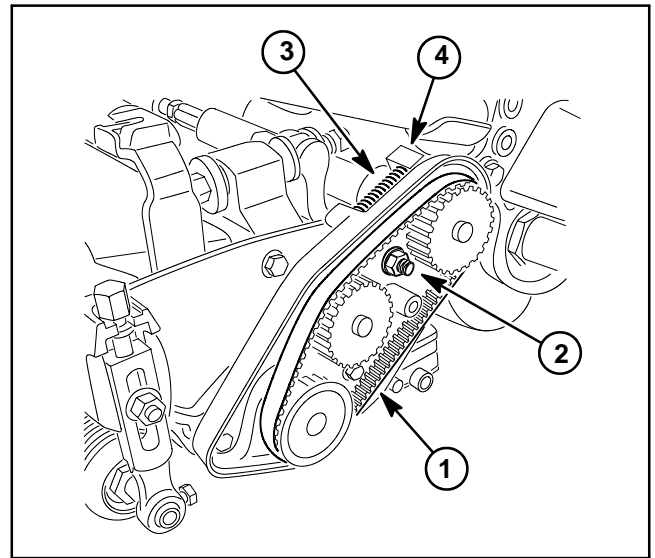

Figure 12
3. Loosen the bearing housing mounting nut (Fig. 12).
4. Using a 5/8" (16mm) wrench, rotate the bearing housing to release tension on reel drive belt (Fig. 12).
2. Using a 5/8" (16mm) wrench, rotate and hold the bearing housing to allow reel drive belt installation (Fig. 12).
5. Rotate reel drive at least one (1) full turn to ensure that drive belt is properly tensioned.
6. Tighten the bearing housing mounting nut (Fig. 12).